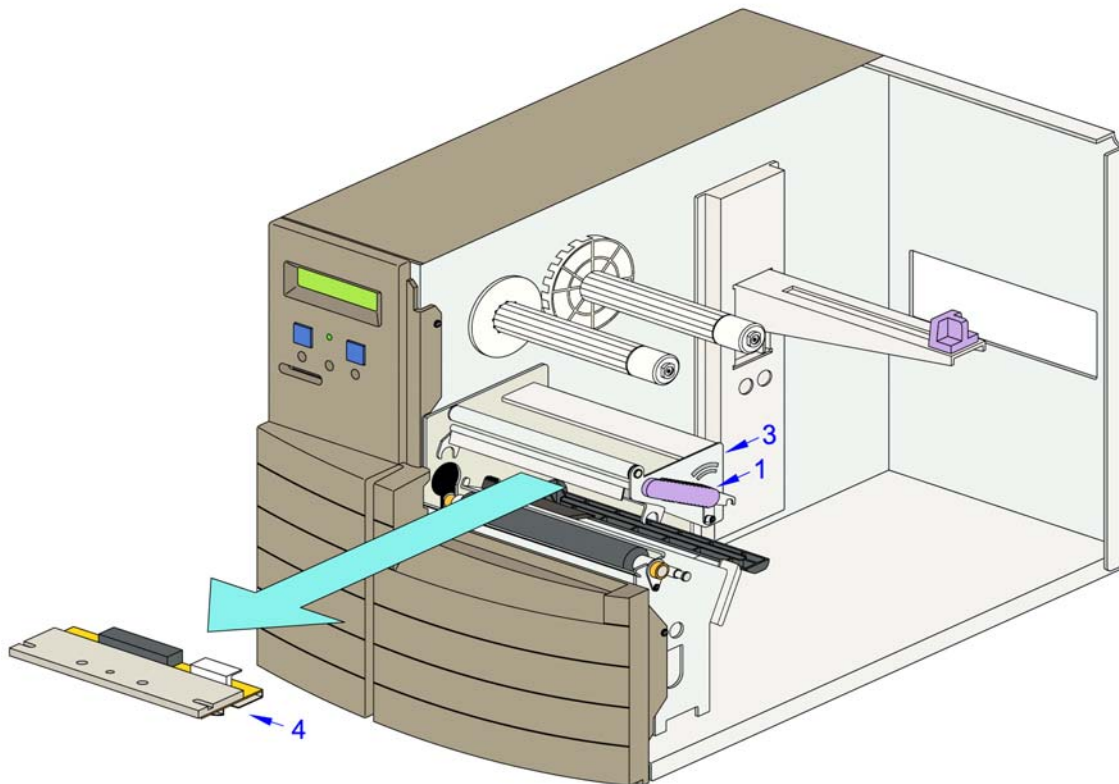

Figure 6-1b, Print Head Replacement
3. Remove screw (2) from upper print assembly (3) securing defective print head (4, Figure 6-1b).
4. Unlatch print head release lever (1) and withdraw defective print head (4) from within print assembly (3).
5. Disconnect the two wiring harnesses (not shown) from defective print head (4).
6. Reconnect two wiring harnesses (not shown) to replacement print head (4).